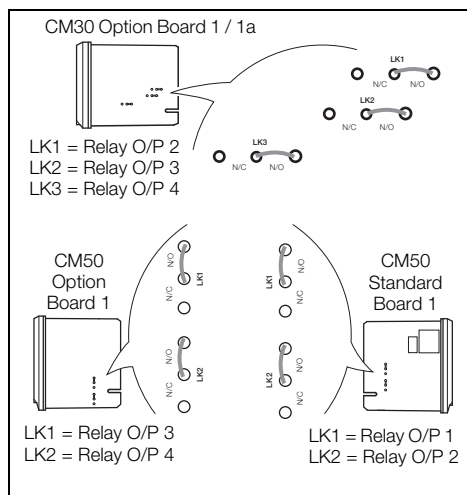

Fig. 4.12 Jumper Links for Relay Outputs
1. The links associated with the relay outputs are shown in Fig. 4.12.